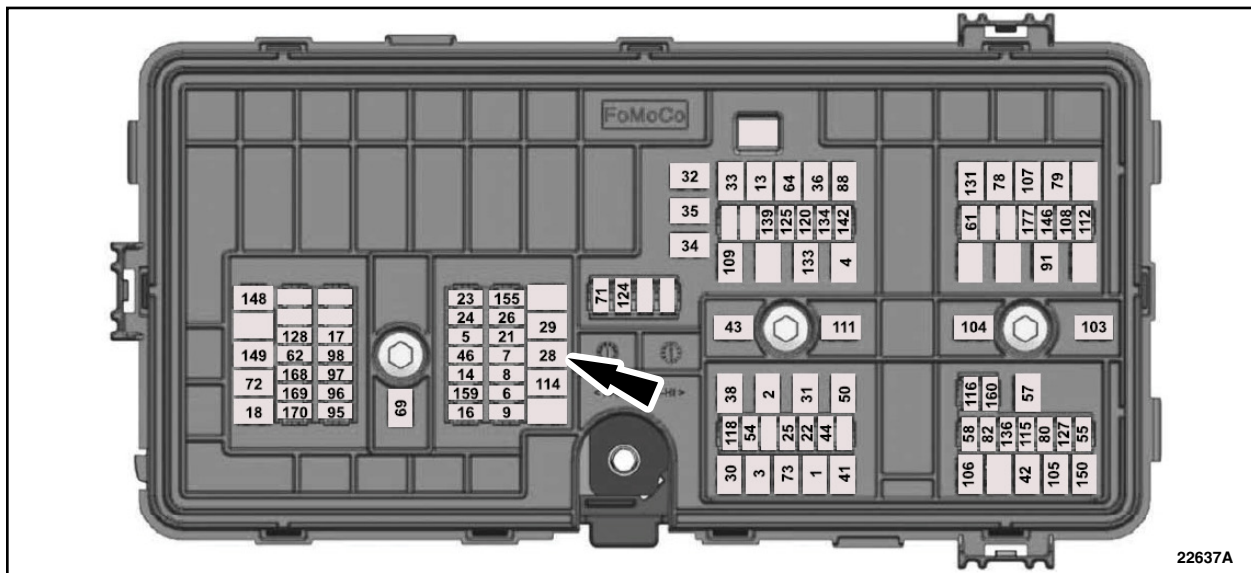

FIGURE 1
7. Ensure that the key is in the off position and locate and remove fuse number 28 from the fuse box. See Figure 1.